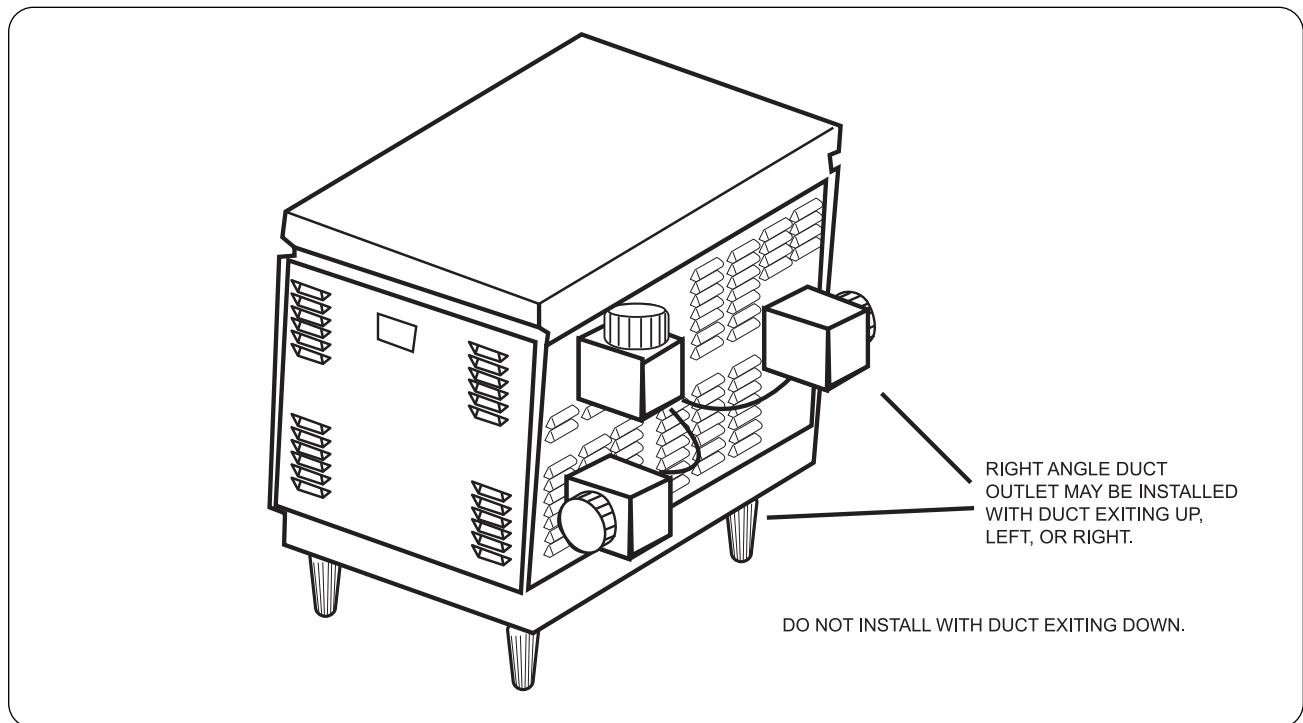

Figure 10. Right Angle Adapter Mounting Options.
- Right angle adapter is provided to minimize radius of initial bend toward flue piping required for tight quarters. See Figure 10 for direction options.
NOTE: The standard Vent Outlet is shown in Figure 10 exiting from the rear. To adjust the outlet exit to the right side see the COMPONENT-ADJUSTMENT/REPLACEMENT section of this manual.